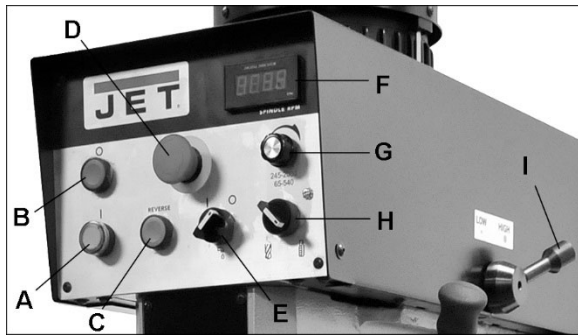

Figure 7-1: controls (JDP-20EVST-230 shown)
The front panel (Figure 7-1) contains all the controls required to operate the drill press. The A.C. inverter in the electrical box does not require any programming, it is pre-programmed from the factory. **Do not attempt to change inverter settings.** Use only the controls on the front panel. If you suspect a problem with the inverter or its settings, contact JET technical service at 1-800-274-6848.
5. MAKE SURE DRIVE MOTOR IS RUNNING BEFORE turning speed shift lever (I, Figure 7-1) in either direction.